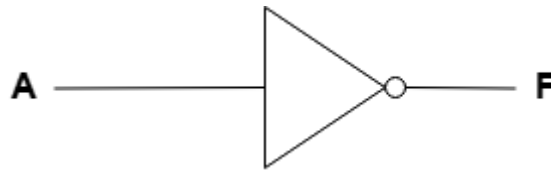

Figure 9.3: NOT Gate
The NOT gate represented in Figure 9.3 has one input (A) and one output (F). Below is a simple table for this NOT gate.